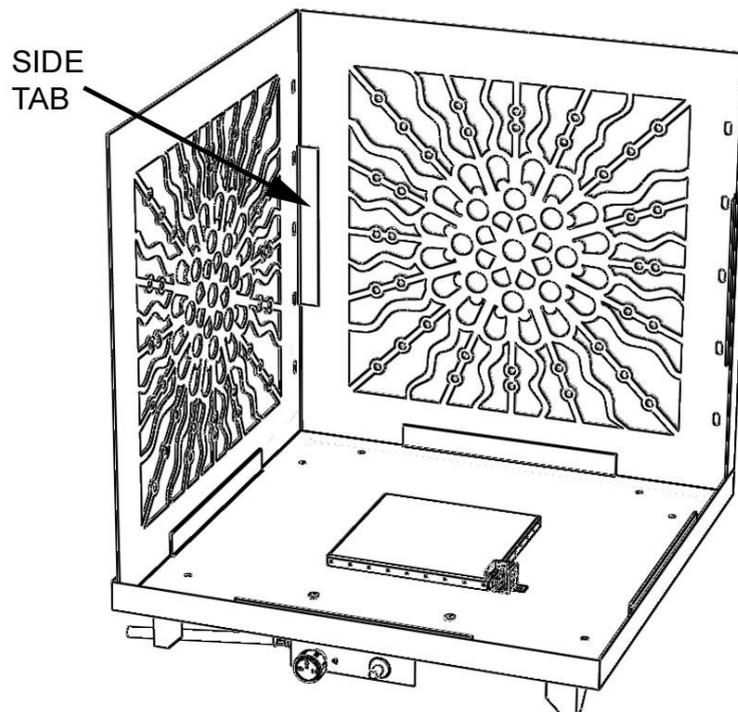

Figure 2
3. Place the next panel in the base and insure that it is interlocked with the side tabe of the first panel. See Figure 2.